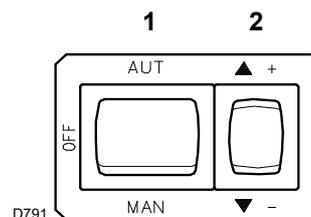
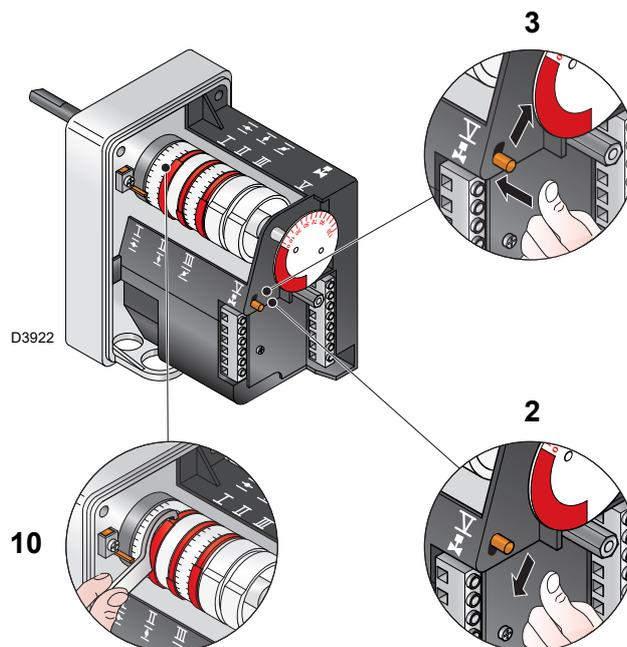

Fig. 28
Fig. 32
Close the thermostats/pressure switches and turn the switch to **MAN** (Fig. 28).
Now press the "increase output" button 2)(Fig. 28), and keep it pressed until the servomotor has opened the air damper and the gas butterfly valve.
Press the "reduce output" button 2)(Fig. 28), and keep it pressed until the servomotor has closed the air damper and the gas butterfly valve at 50° (adjustment made in the factory).
- If it is necessary to reduce it, slightly reduce the angle of cam III (Fig. 32) with small, regular movements (i.e. bring it from an angle of 65° to 63° - 61°....).
- If it is necessary to increase it, lightly press the "increase output" button 2)(Fig. 28) (open the gas butterfly valve by 10-15°) and increase the angle of cam III (Fig. 32) with small, regular movements (i.e. bring it from an angle of 65° to 67° - 69°....).
For any necessary adjustment of cam III, especially for small movements, use the specific key 10)(Fig. 32).
Lightly press the "increase output" button 2)(Fig. 28) so the servomotor rotates by about 15°.
Key (Fig. 32)